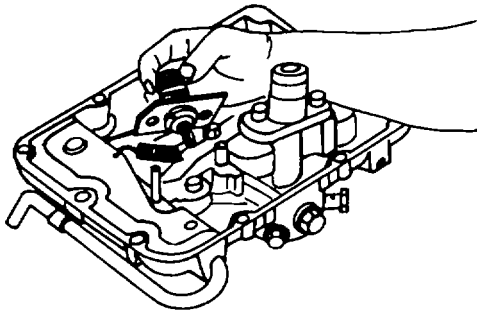

Figure 5-85. Assembled Plunger and Metering Sleeve
1. Remove tappet body nuts. Remove body and tappet assembly (figure 5-85).